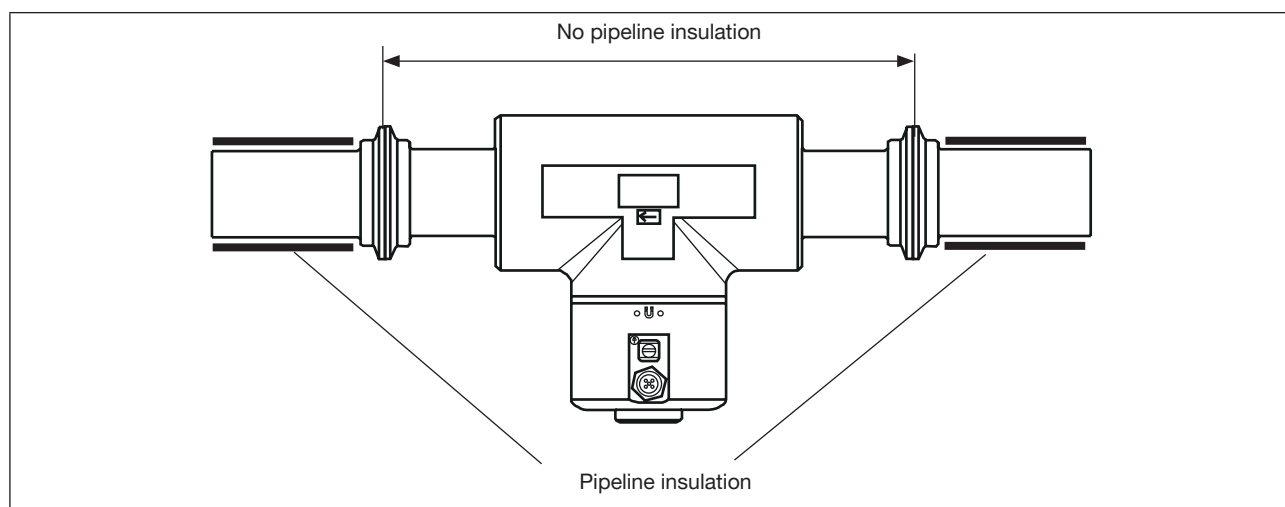

Figure 10: Thermal insulation of the pipeline
- If the pipeline is fitted with a thermal insulation, do not thermally insulate the measurement tube of the device to make sure that the temperature in the device is less than 70°. Refer to Figure 10 and, for the minimum supply voltage, to chapter 8.3.